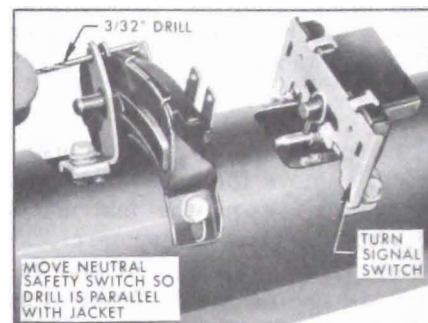

Figure 10-60—Checking Neutral Safety Switch Timing
3. Insert a 3/32" drill or a piece of 3/32" drill rod through gauging hole in operating lever and through gauging hole in switch body. CAUTION: Be careful not to cause shift control lever to move out of neutral position. See Figure 10-60.